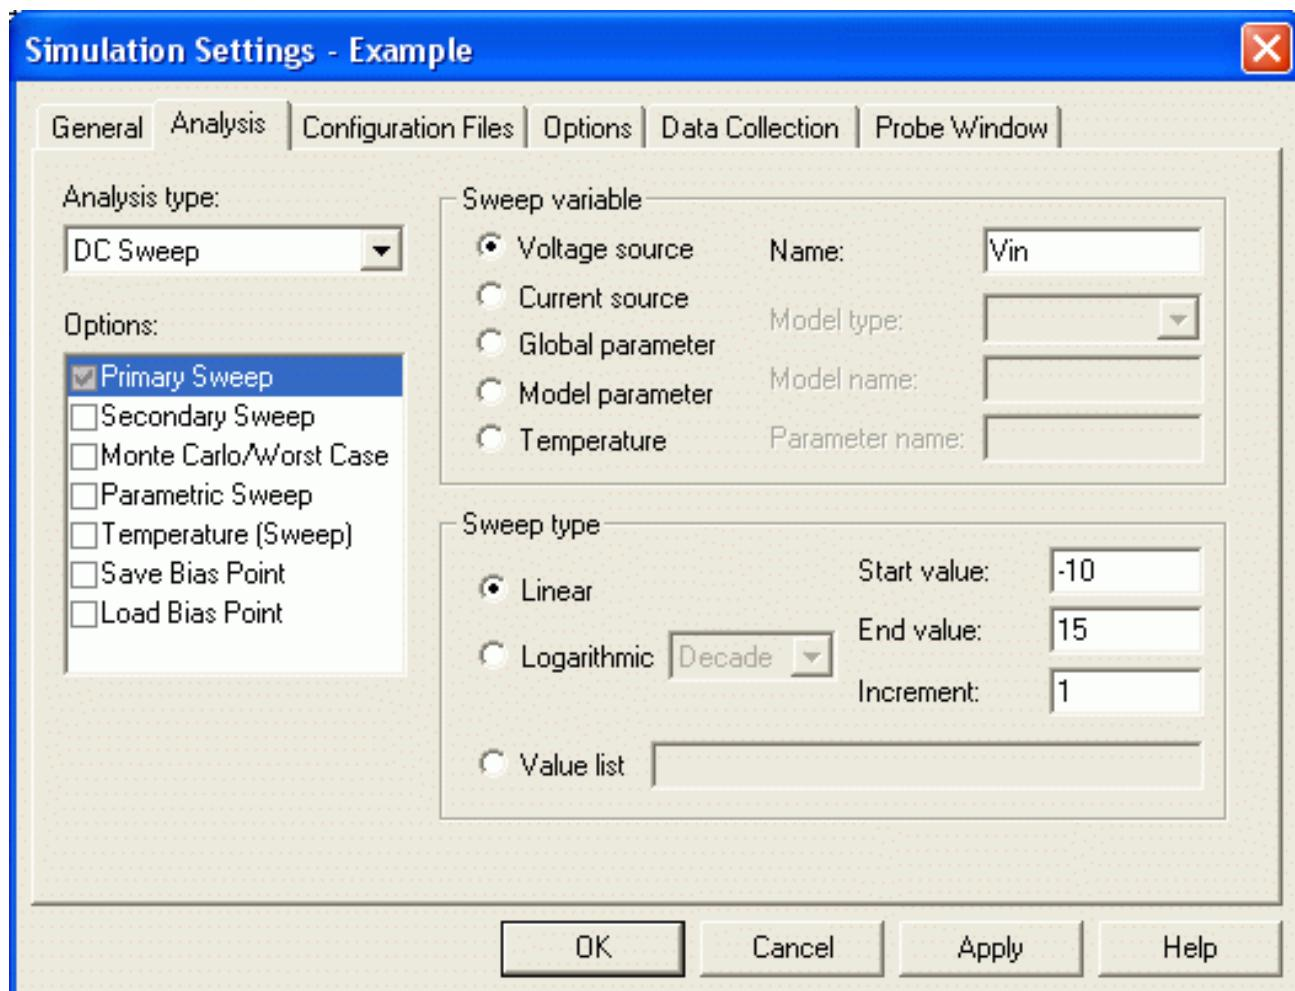

Figure 2-8 DC Sweep analysis settings
5. From the Analysis type list, select DC Sweep and enter the values shown in Figure 2-8.